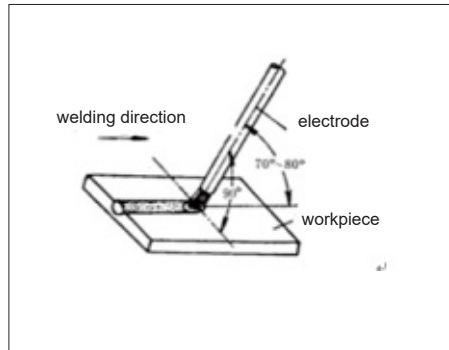

Fig 14 Angles of electrode in flat welding
(1) Welding angle: the electrode should be inclined 70~80° forwards. (See Fig 14)
(2) Arc length: the proper arc length is equal to the diameter of the electrode in general.
(3) Welding speed: proper welding speed should make the crater width of the weld bead about twice the diameter of the electrode, and the surface of the weld bead should be flat with fine ripples. If the welding speed is too high, and the weld bead is narrow and high, the ripples are rough, and the fusion is not well implemented. If the welding speed is too low, the crater width is excessive, and the workpiece is easy to be burned through. Besides, the current should be proper, the electrode should be aligned, the arc should be below, and the welding speed should not be too high and should be kept uniform during the whole welding process.